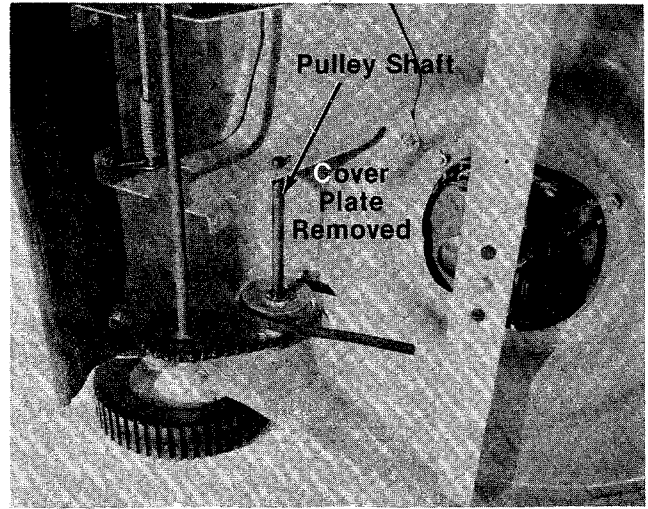

FIGURE 35.
- Remove the cover plate. See figure 35.